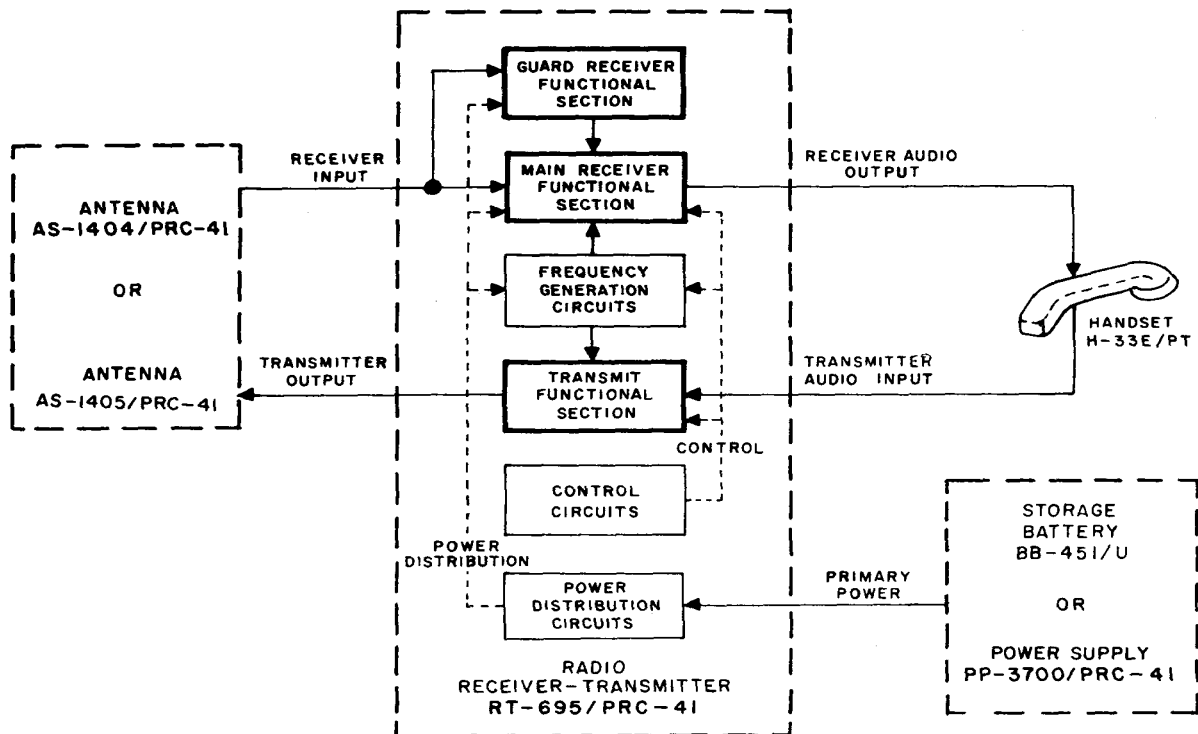

Figure 4-3. Radio Set AN/PRC-41, Over-all Functional Block Diagram
(1) Since, other than Radio Receiver- RT-695/PRC-41 and Power Supply PP-3700/PRC-41, the units and accessories of AN/ PRC-41 are not electronic in nature, the description and test information of this section is limited to RT-695/PRC-41 and PP-3700/PRC-41. It may be necessary to check an antenna or cable assembly for continuity; however, damage to masts, mountings, harness, cases, etc. is obvious from visual inspection. No test information for these items is contained in this section. Radio Receiver-Transmitter RT-695/PRC-41 functions in three ways; it provides transmission and reception on 1,750 channels in the 225.0- to 399.9-mc range, and reception on a single frequency, 243.0 mc, known as the guard channel. The functional sections are therefore identified as the main receiver, guard receiver, and transmitter functional sections. Refer to figure 4-3. Primary power, power distribution, frequency generation, control, and antenna circuits are considered subordinate and common to both the main receiver and transmitter functional sections. The guard receiver functional section contains its own frequency generation circuits. Power distribution circuits are common to all functional sections. Radio Receiver- RT-695/PRC-41 may be used with either Antenna AS-1404/PRC-41 or Antenna AS-1405/PRC-41. The receiver output is applied to Handset H-33E/PT.
(2) Paragraphs 4-3 through 4-5 provide descriptions and test data for the functional sections.